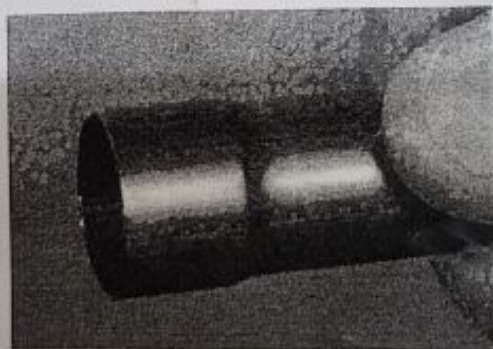

Figure.1. Expanded tubular shaped part
- 10.b) Identify a high energy rate forming (HERF) process suitable for swaging or expanding tubular shaped parts as shown in Figure.1. Explain the process principle with a neat sketch and list out its advantages and limitations?